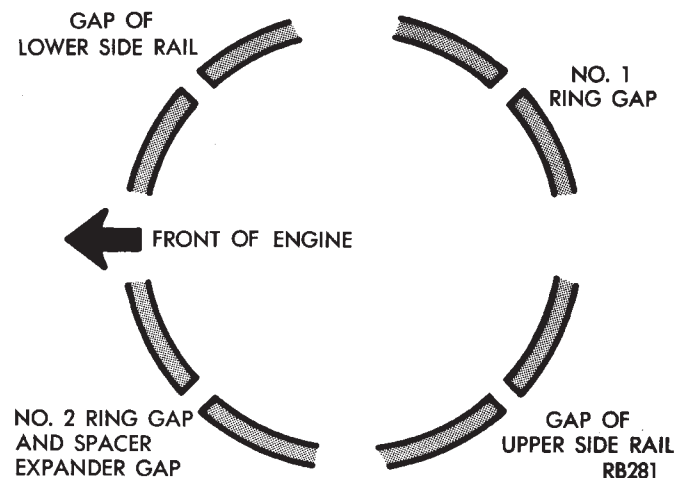

Fig. 11 Piston Ring End Gap Position
- (1) The No. 1 and No. 2 piston rings have a different cross section. Install rings with manufacturers I.D. mark facing up, to the top of the piston (Fig. 11).